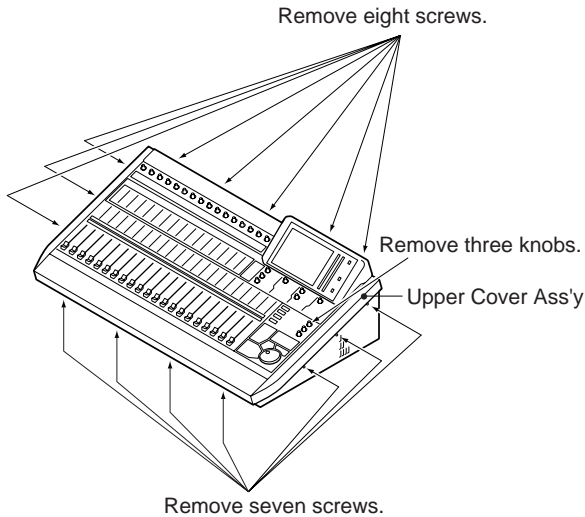

Fig. 2-1
- Referring to Fig. 2-1, remove three knobs and fifteen screws that secure the Upper Cover Ass'y.